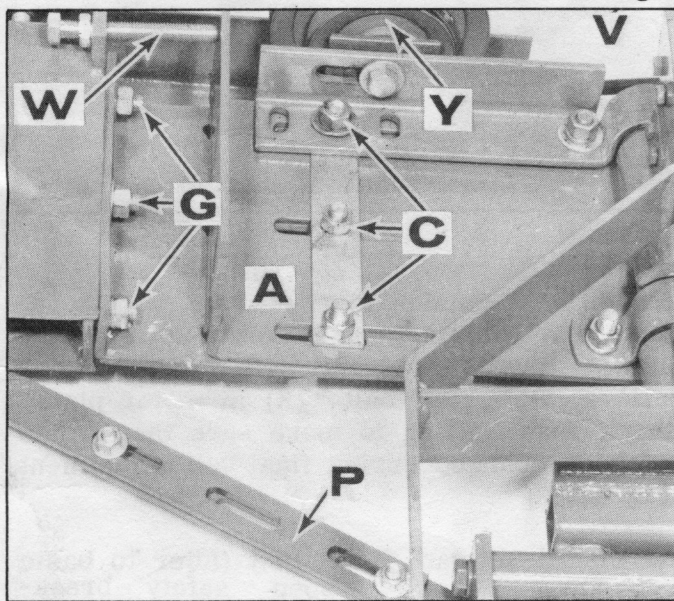

Fig. 5
Bolt (C) in (Fig. 5, 7 & 8) are now reversed in plate (A) and any other photo where they appear. In (Fig. 5) anchor bolt (W) is reversed so head of bolt is in contact with plate (A).
(Fig. 4) Improper lead adjustment of sickle bar assembly will create excessive side draft on tractor and poor cutting action, as well as possibly plugging sickle knife. Outer end of sickle bar at (1) should lead inner end (2) by two inches as illustrated in (Fig. 4). To adjust lead, loosen three vertical bolts (C) in plate (A) and two set screws in tie rod (P) (Fig. 5). Adjust cutter bar (E) to lead setting as illustrated in (Fig. 4), by pushing outer end of bar forward. Slots in carriage plate (A) will adjust accordingly to allow for change in lead setting. (Fig. 5). When proper setting is obtained tighten vertical bolts (C) and two set screws in tie rod (P). **IMPORTANT:** Proper V-belt tension will allow approximately 1/2" deflection of V-belt when applying firm finger pressure midway between pulleys (Fig. 8a). (See adjustment of drive belt, page 8). Fig. 18